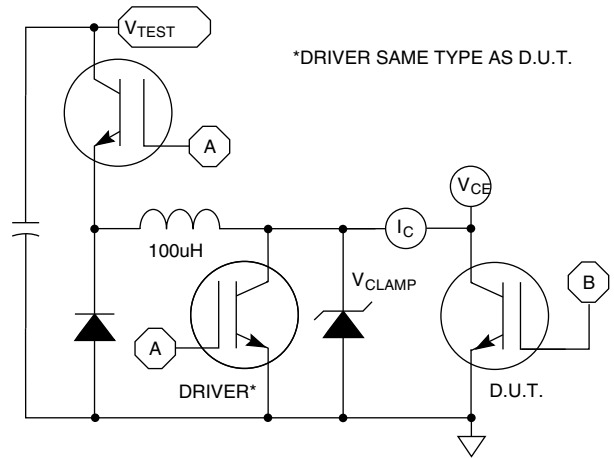

Figure 24, EON1 Test Circuit
① Repetitive Rating: Pulse width limited by maximum junction temperature.
② For Combi devices,  $I_{ces}$  includes both IGBT and diode leakages
③ See MIL-STD-750 Method 3471.
④  $E_{on1}$  is the clamped inductive turn-on-energy of the IGBT only, without the effect of a commutating diode reverse recovery current adding to the IGBT turn-on loss. (See Figure 24.)